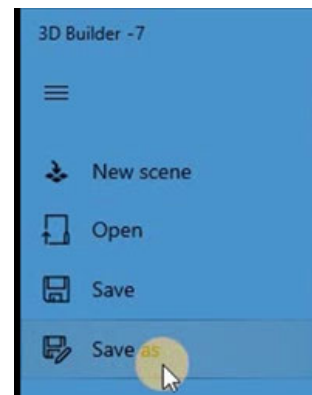

Figure 11
- Press 'Save As' (figure 11).